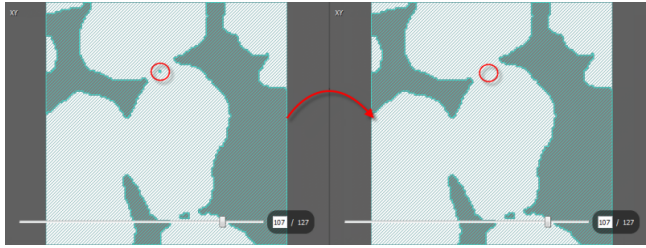

Figure 5.7: Removing islands
- Press *Apply*. The islands are then removed (see Figure 5.7).